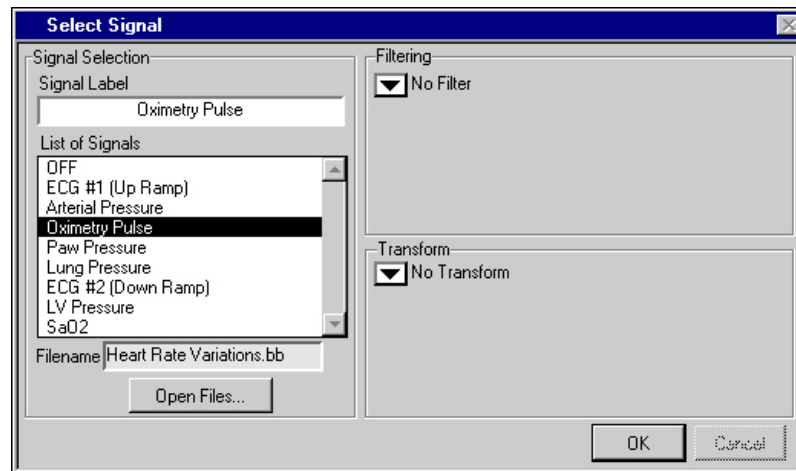

Figure 4-2. Select Signal Dialog Box
To change the signal being displayed, click on the label of a graph, which is in the upper left corner of each graph. The Select Signal dialog box opens, as shown in Figure 4-2. In the Overlaid Analysis view, the labels for up to eight signals appear on the right side of the screen.
- **Filter/Transform Indicators**—These indicators display any filter and/or transform option you have selected for the graph in the **Select Signal** dialog box, shown in Figure 4-2. Refer to the *Selecting the Signal for a Graph* section earlier in this chapter for an explanation of this dialog box.
The Select Signal dialog box, shown in Figure 4-2, allows you to choose analysis methods for your data. You can open the Select Signal dialog box by clicking on the signal label for a graph. The Selecting the Signal for a Graph section earlier in this chapter describes how to select signals. This section describes the analysis methods of the filters and transforms.